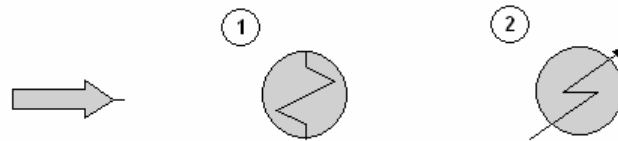

Figure 11-05: The flowsheet so far
- Again move the cursor to the workspace, this time about an inch to the right of the first heat exchanger, and click the mouse. A single-sided heat exchanger icon appears on the flowsheet where you clicked. Your flowsheet so far should look something like Figure 11-05.